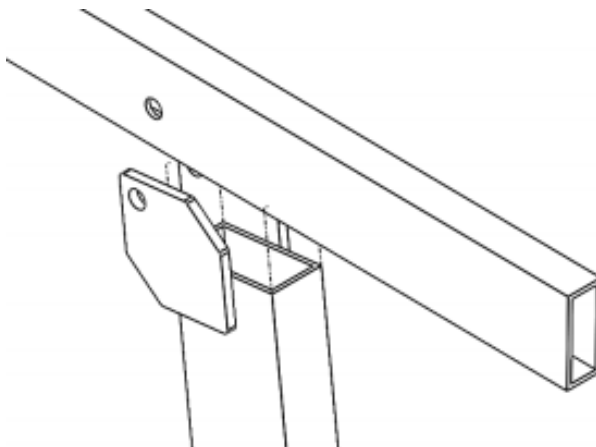
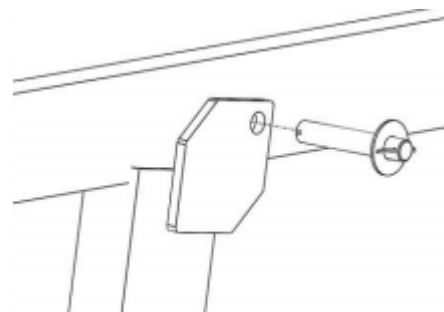

Figure 16
Figure 17
1. Align the 1" holes of the H-Frame(s) with the corresponding holes on the V-Bunk Support, resting the V-Bunk Support on top of the H-Frame(s) as shown in Figure 16.
2. Insert one (1) 1/8" Cotter Pin into one (1) 1" Hinge Pin, bending the tines of the Cotter Pin outward and apart, securing the Cotter Pin within the Hinge Pin.
4. Insert the Hinge Pin through the hinge plate as shown in Figure 17.